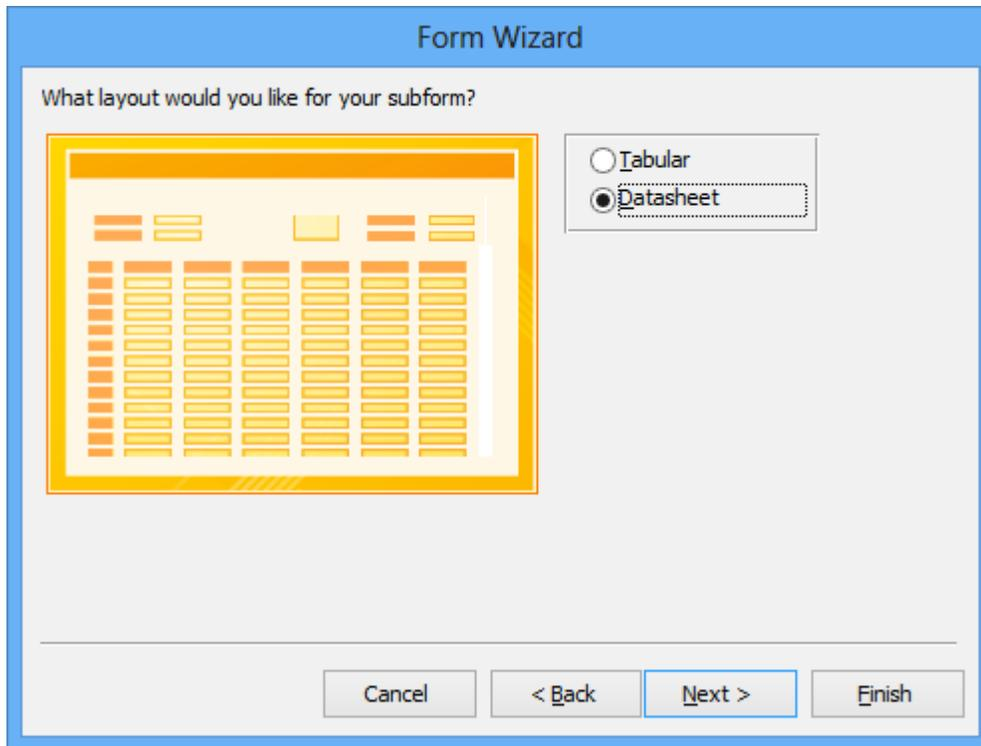

Figure 5: Subform Layout Window of the Form Wizard
- Select the Layout of the Subform: In the next wizard window (Figure 5), select “Datasheet” (it should be the default) and click **Next >**.